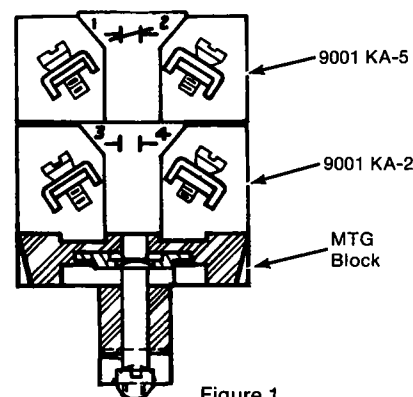

Figure 1
A snap switch or contact block serves as the basic contact module and must be replaced as a complete unit. For Type AW124 contact module replacement, see Figure 1, page 4. Replacement of contact module should not make it necessary to readjust the foot switch. If adjustment becomes necessary, follow the appropriate procedure below.
2. To insure the correct contact sequence, the Class 9001 Type KA-5 block(s) (Labeled $\frac{1}{2}$ $\frac{3}{4}$) MUST be mounted on top of the Class 9001 Type KA-2 block(s) (Labeled $\frac{1}{2}$ $\frac{1}{4}$). Reference Figure 1. DO NOT INSTALL BLOCKS IN THE REVERSE SEQUENCE.
3. Wire test lights across the (2) KA-2 blocks on bottom.
8. Wire test lights across the (2) KA-5 blocks on top and verify the correct contact sequence: The normally closed contacts of both the KA-5 blocks must open before the normally open contacts of either of the KA-2 blocks close.